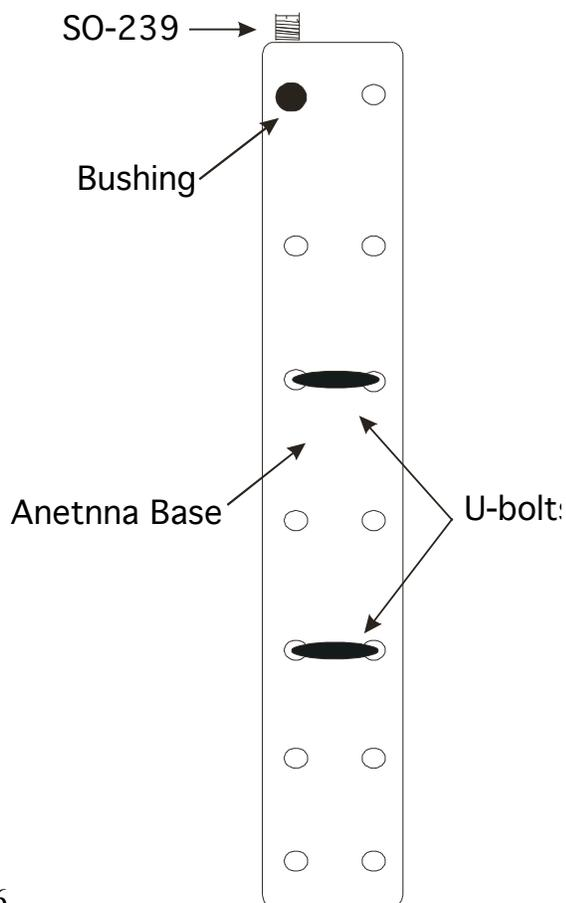

Figure 6
- [] 2. The So-239 connector, supplied with the base, should then be installed on the top of the base plate mount as indicated in Figure 6 using two 6/32” x 3/8” screws and kep nuts supplied with the base. One of the feed-points at the bottom of the base may also be used. The insulated wire supplied with the MFJ-1904 will be long enough for this application. This will increase the radiating length of the antenna.